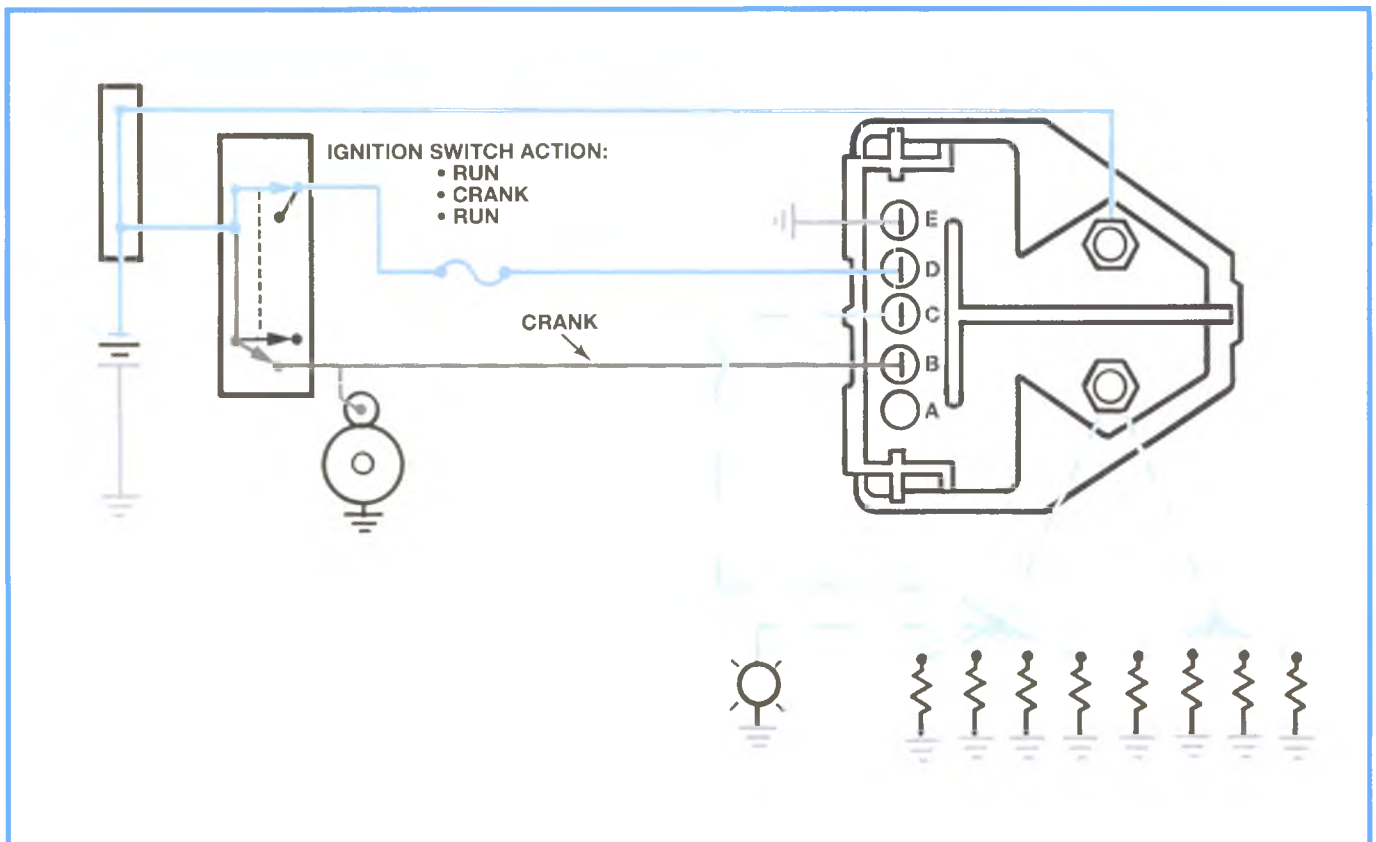

Figure 8-19, Glow Plug System Cycling – After Cranking
- If the vehicle driver rotates the ignition switch to the CRANK position during or after the previous cycling sequence, the following things occur (refer to Figure 8-19):